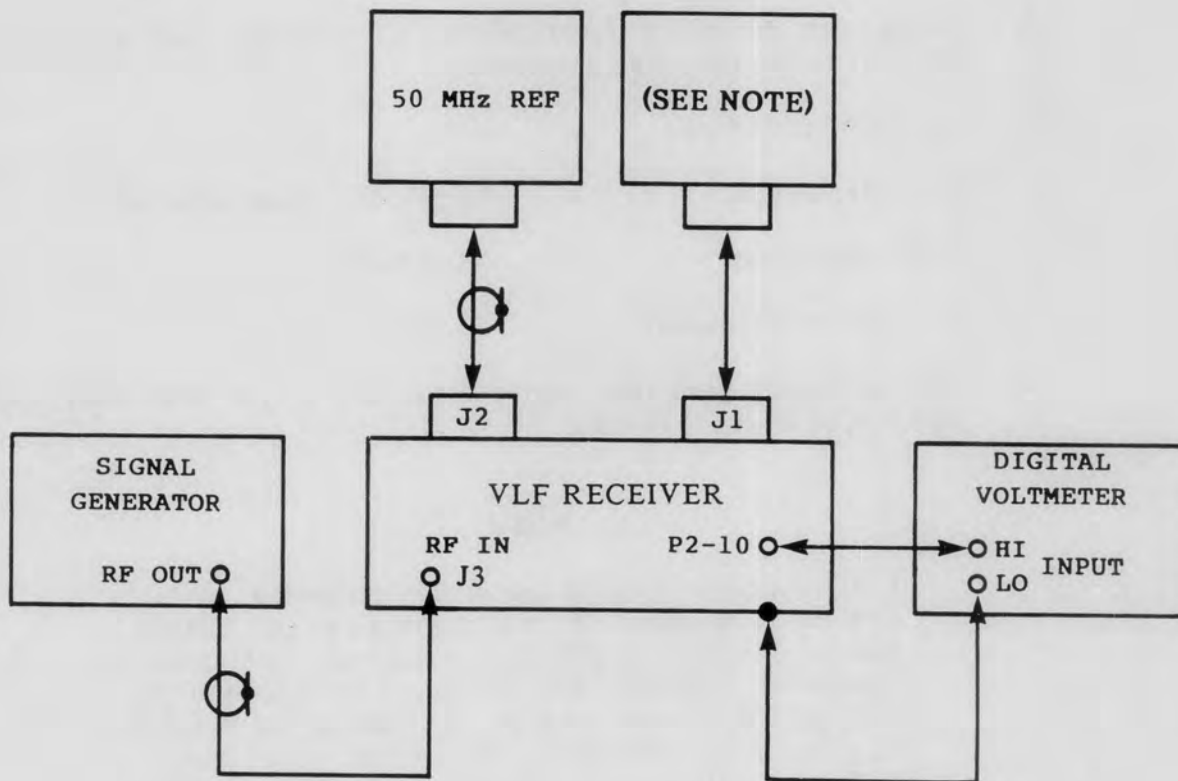

Figure 4-8. FM Discriminator Adjustment Equipment Setup
1. Connect the receiver as shown in **Figure 4-8**.